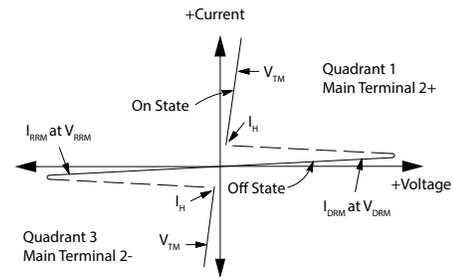

Figure 1. Typical RMS Current Derating
- Ratings apply for $t_w = 1$ ms. See Figure 1 for ITM capability for various duration of an exponentially decaying current waveform, t_w is defined as 5 time constants of an exponentially decaying current pulse.
- Ratings apply for $t_w = 1 \text{ ms}$. See Figure 1 for I_{TM} capability for various durations of an exponentially decaying current waveform.